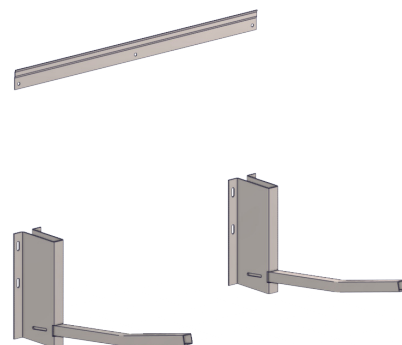
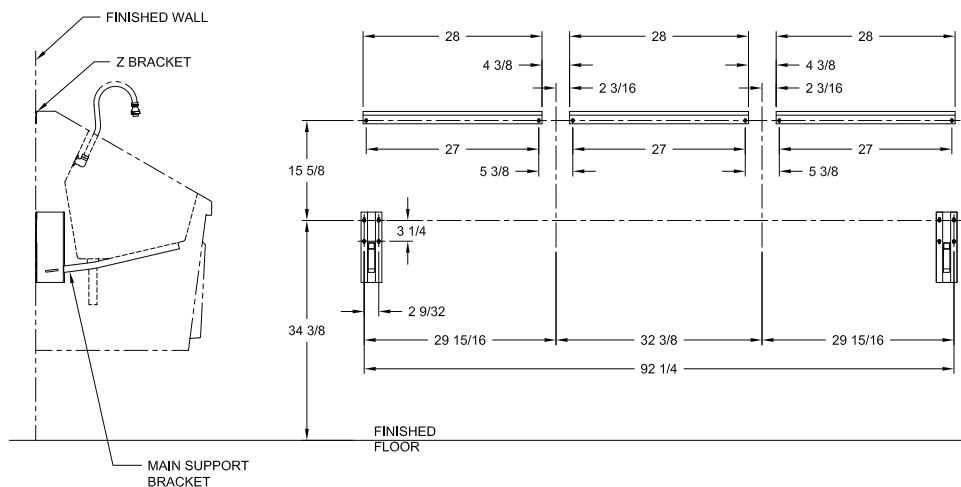

Fig. 5: Z brackets
Fig. 19: Z bracket mount locations - SS96
- A. "Z" Brackets for mounting the sink to the wall come with the sink (Fig. 5). Recommended mounting specifications for Z brackets shown in Fig. 13 (SS32), Fig. 16 (SS64), and Fig. 19 (SS96) on page 9 through page 11.